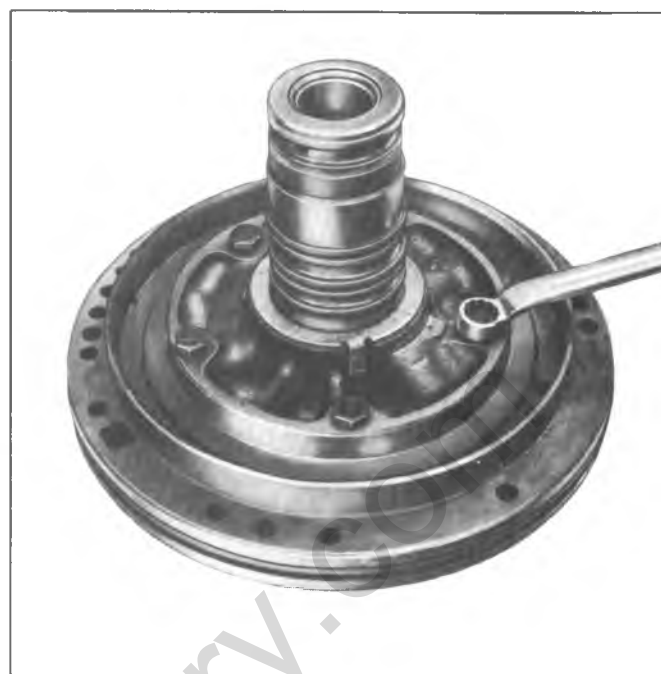

Fig. 53N--Removing Pump Cover to Pump Body Bolts
2. Remove pump cover to body attaching bolts 5/16 x 18-1 1/2 (fig. 53N).
3. Remove two (2) forward clutch housing to pump hub hook type oil seal rings and three (3) direct